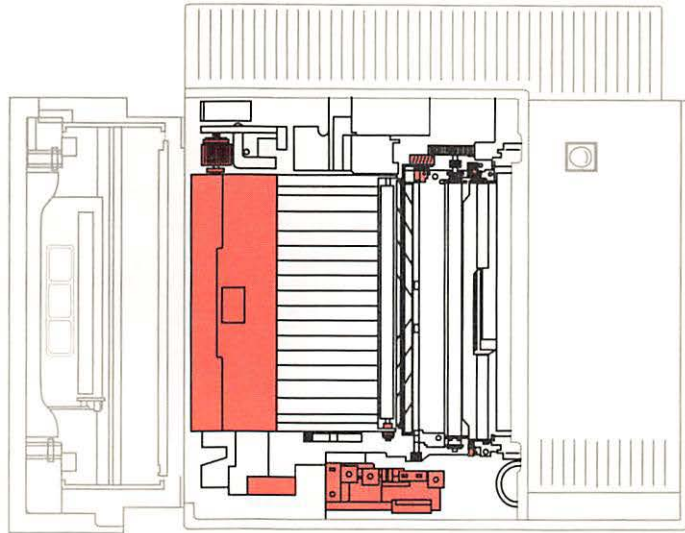

Figure 6-2
- Don't touch the exposed gears or electrical contacts in the shaded areas of Figure 6-2.